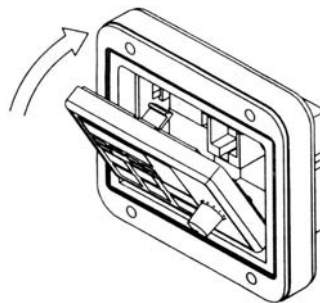

Figure 1: Mounting the digital operator into the carrier.
7. Insert the digital operator removed in step 5 into the operator carrier at a slant. Insert the bottom first and then seat the top into the receptacle. See Figure 1. The remote operator membrane will not be used.